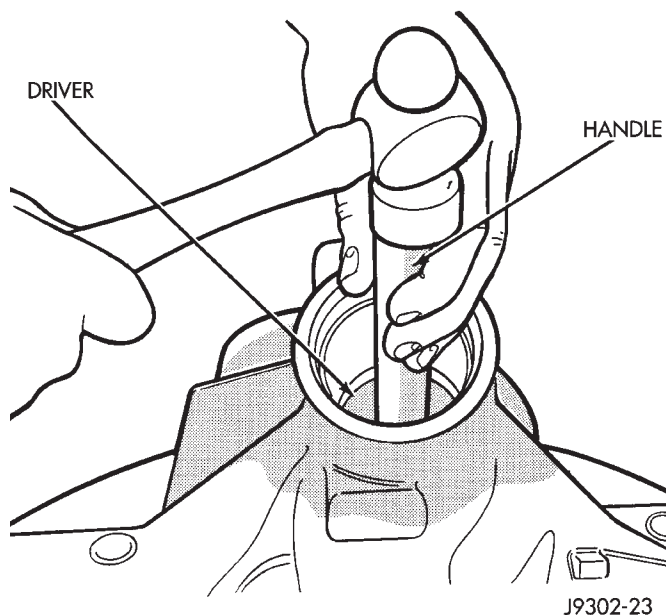

Fig. 31 Rear Bearing Cup Removal
(8) Remove the rear pinion bearing cup from axle housing (Fig. 31). Use Remover D-149 and Handle C-4171.
(9) Remove the depth shims from rear pinion bearing cup bore in axle housing. Record the thickness of the depth shims.